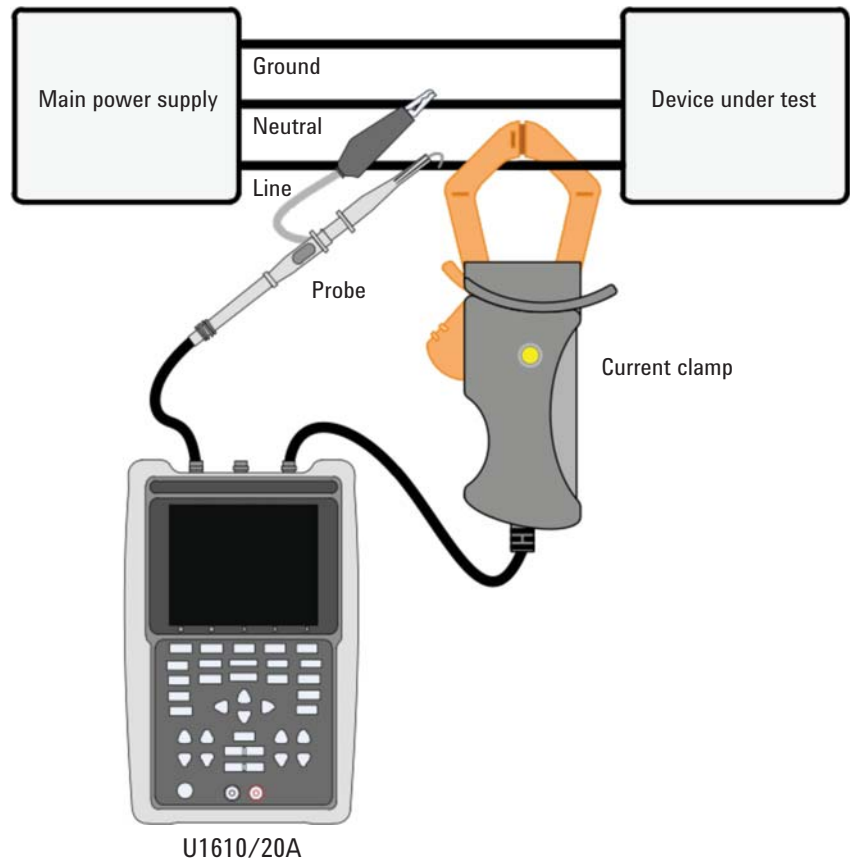

Figure 3. Setup to measure power
1. Prepare the setup as shown in Figure 3.